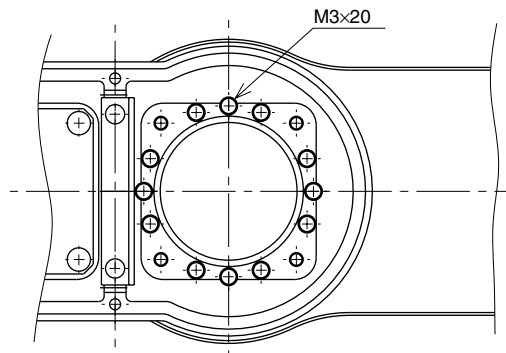

Fig. 5-24
- 9) Remove the Y-axis arm installation bolts (M3×20L, 12 pieces). (See Fig. 5-24.)
- 16) Secure the Y-axis arm to the harmonic drive with the bolts (M3×20L, 12 pieces) you removed earlier. Apply small amounts of “Screw Lock” to the bolts and tighten them uniformly to secure the Y-axis arm. (See Fig. 5-24.)